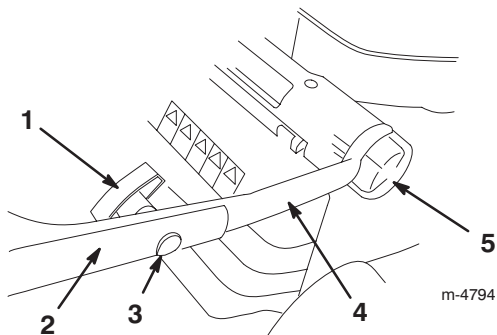

Figure 2
2. Loosen the handle height adjustment knobs and rotate the lower handle rearward until it seats into one of the handle height settings as shown in Figure 2.
4. Install the upper handle section onto the lower handle section with the oval-head bolts and the handle knobs as shown in Figure 2. **Tighten the handle knobs securely.**
You can set the handle to 3 height settings: high, medium, and low (Fig. 2). Select the handle height setting most comfortable for you.